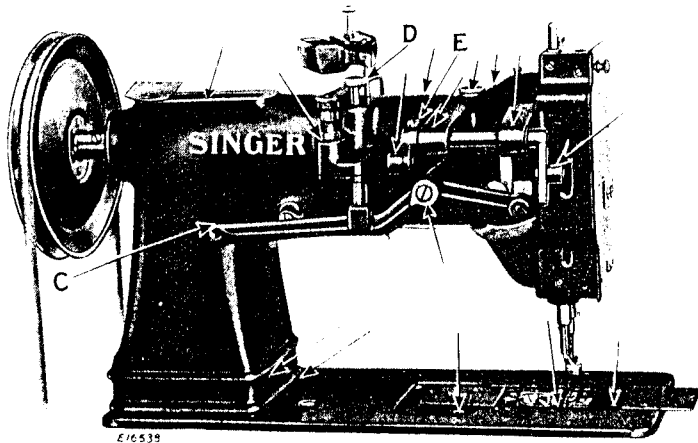
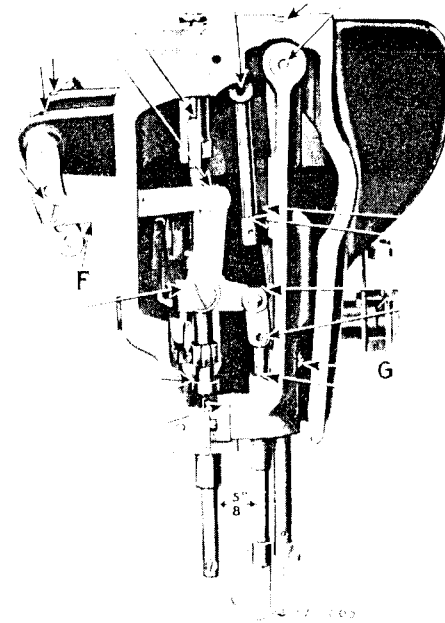
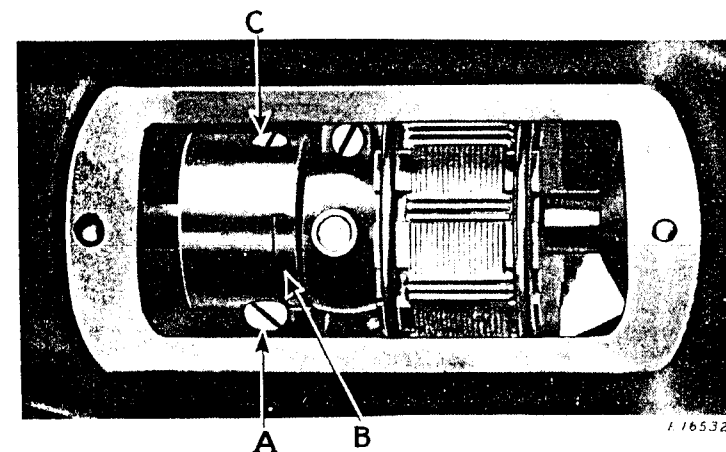

Fig. 3. Rear View of Machine
Fig. 4. End View of Machine Showing Oiling Points
Fig. 17. Feed Eccentric, Arm Cap Removed
The length of stitch is regulated by the feed eccentric (B, Fig. 17) located on the arm shaft.
To lengthen the stitch, loosen screw (C, Fig. 17) and turn the feed regulating screw (A, Fig. 17) over toward the left. To shorten the stitch, turn this screw (A, Fig. 17) over toward the right. When the desired length of stitch is obtained, securely tighten screw (C).
To increase the pressure, turn the thumb screw (D, Fig. 3) at the back of the machine, downwardly. To decrease the pressure, turn this thumb screw upwardly.
In case the needle bar is not correctly set, loosen the needle bar connecting stud pinch screw (G, Fig. 4) and place the needle bar in correct position as directed above, then retighten the screw (G).
Adjust the feed eccentric (B, Fig. 17) so that there is no feed movement of the needle bar frame, then set the needle bar so that when it rises $1/8$ inch from its lowest position, the point of the sewing hook will be about $1/16$ inch above the eye.
The distance between the vibrating presser bar and lifting presser bar, after adjusting the feed eccentric (B, Fig. 17) so that there is no feed movement of the needle bar, should be $5/8$ inch as shown in Fig. 4.
If the distance between the vibrating presser bar and the lifting presser bar is more or less, insert a screwdriver in the hole at (C, Fig. 3) at the rear of the machine and loosen the clamp screw which holds the needle bar rock frame rock shaft. While this screw is loose, the needle bar frame can be moved forward or backward to the required distance. A piece of metal of the correct width may be used to determine the correct distance. When making this adjustment be sure to see that the feed eccentric (B, Fig. 17) is set so that there is no feeding movement of the needle bar. When the adjustment has been made, securely tighten the clamp screw at C.
The height of lift of the pressers is adjustable by moving the link (F, Fig. 4) to any of the four holes in the rock shaft crank. The maximum lift is secured with the link in the bottom hole. The amount of lift of the vibrating and lifting presser feet should be regulated according to the thickness of material being sewn. The feet should lift just high enough to clear the material. As a rule, the vibrating and lifting pressers should lift an equal height, but some grades of work may require that they lift an unequal height. To change the relative lift of the presser feet, loosen the screw (E, Fig. 3) at the back of the machine and move the vibrating presser bar upward or downward as required, then securely tighten the screw (E).
Adjust the feed eccentric (B, Fig. 17) so that there is no feeding motion.